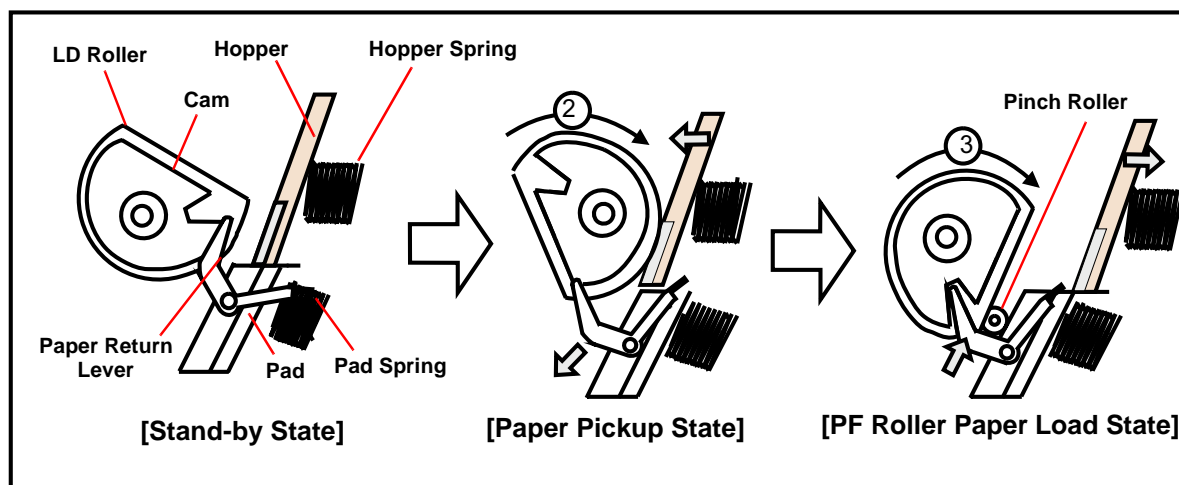

Figure 2-10. Multiple Paper Loading Prevention Mechanism
1. When the printer power is turned on, the ASF/Pump motor rotates counterclockwise to detect ASF home position. Then the motor rotates clockwise specified steps to set the LD roller and paper turn lever in place. (See "Standby State" in Figure 2-10.)
2. When the paper loading signal is sent from the PC and the Load/Eject button is pressed, ASF/Pump motor turns counterclockwise to let the LD roller load paper. (See "Paper Pick Up State" in Figure 2-10.)
3. When the paper is transported to the PF roller, the LD roller stops where it loses friction. (See "PF Roller Paper Feed State" in Figure 2-10.)
4. When the next print signal is sent and Load/Eject button is pressed, the ASF/Pump motor rotates clockwise specified steps to set the LD roller and the paper return lever in place. (See "Standby State" in Figure 2-10.)